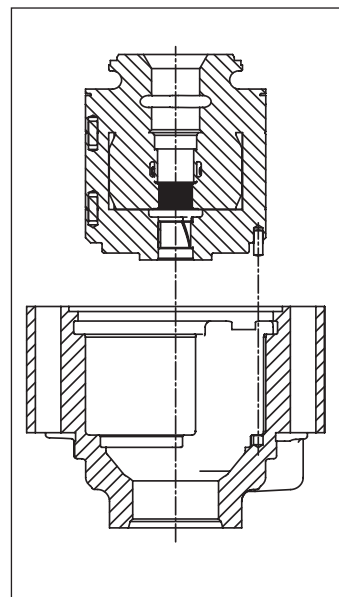

Figure 66
**WARNING:** If you want to reassemble a new cartridge (Fig. 66).
6. Fit the cartridge into the housing (Fig. 66).